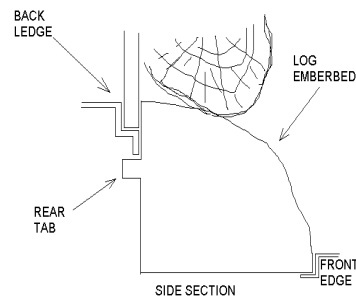

Figure 3
11. Replace the logset by inserting the front edge of the fireplace and push down on the rear edge of the emberbed until it snaps into place. (Figure 3)